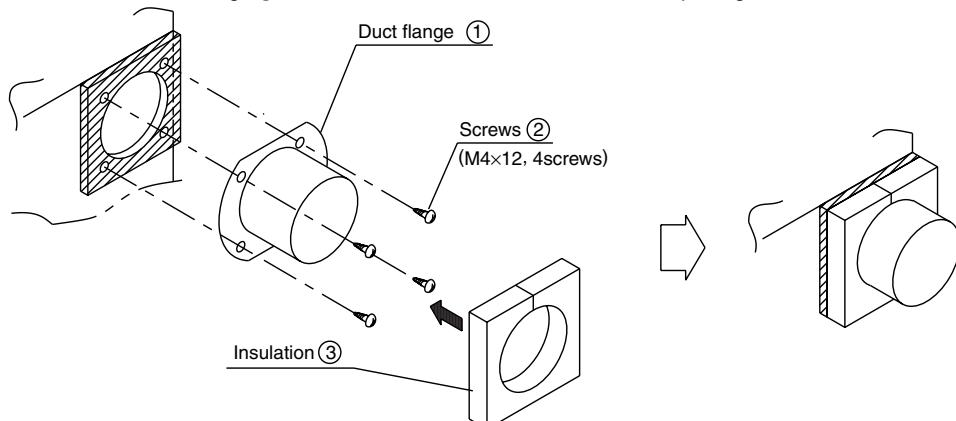

Fig. 3
3. Install the duct flange① with screws②(M4×12, 4 screws) to the opening and adhere the insulation③ (Fig. 3)